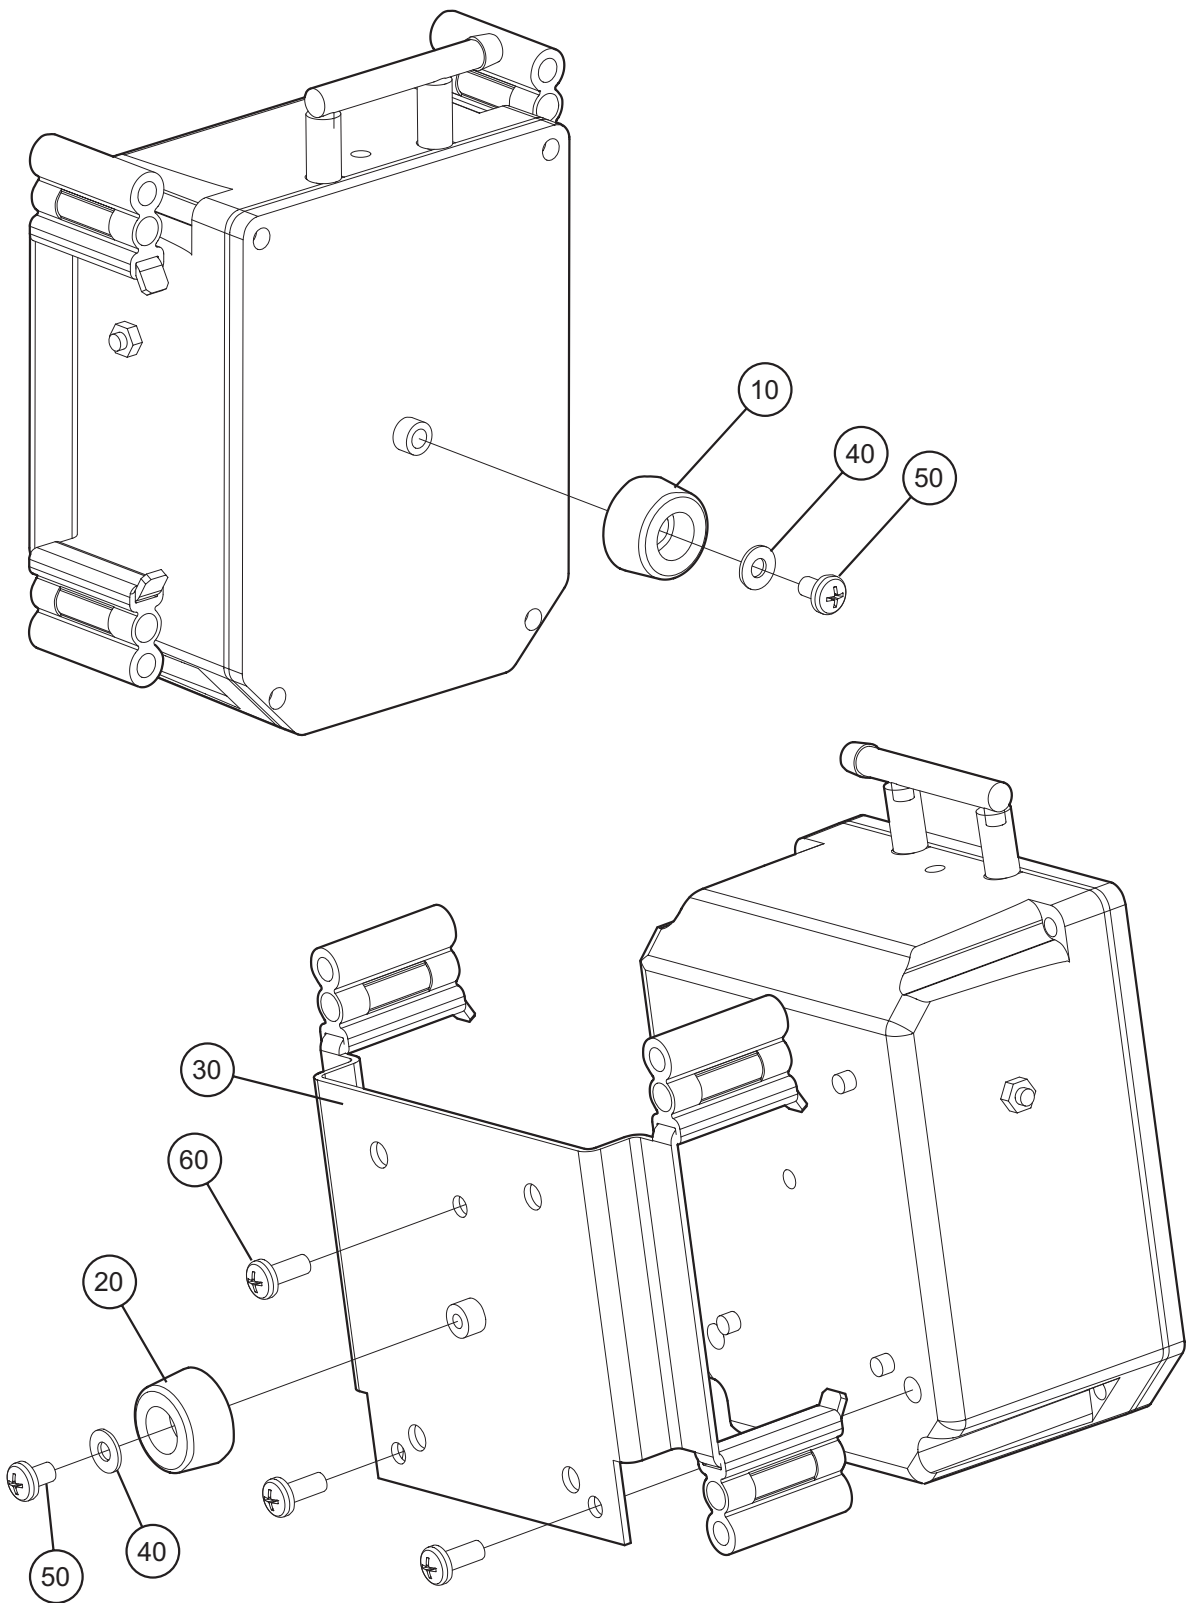

Figure 9 - Replacing Mounting Brackets and Bump Stops
18.2 Remove screw, washer and lower bump stop (Fig 9, Items 50, 40, 20) from the compressor mounting bracket (Fig 9, Item 30).
18.3 Remove three screws (Fig 9, Item 60) and detach the mounting bracket from the compressor.
19.1 Fit replacement mounting bracket (Fig 9, Item 30) same type (if required) to the compressor. Ensure that the four pegs are correctly located and secure the mounting bracket to the compressor with three screws (Fig 9, Item 60).
19.2 Fit the screw, washer and lower bump stop (Fig 9, Items 50, 40, 20) to the mounting bracket.
20.2 Remove screw, washer and upper bump stop (Fig 9, Items 50, 40, 10) from the compressor lid.
- 20.3 Remove screw, washer and lower bump stop (Fig 9, Items 50, 40, 20) from the compressor mounting bracket.
- 21.1 Fit screw, washer and replacement upper bump stop (Fig 9, Items 50, 40, 10) to the compressor lid.
- 21.2 Fit screw, washer and replacement lower bump stop (Fig 9, Items 50, 40, 10) to the compressor mounting bracket.